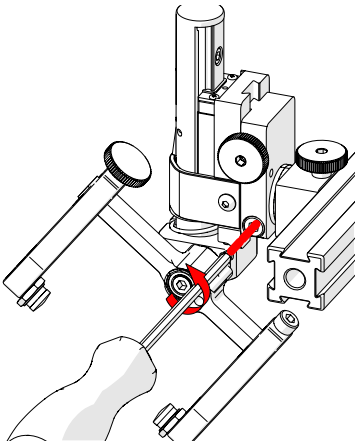

Fig. 72 - Loosen 3 mm screw
2. Using the supplied 3 mm hex driver (*Fig. 14*), loosen the longitudinal adjustment screw (*Fig. 72*).